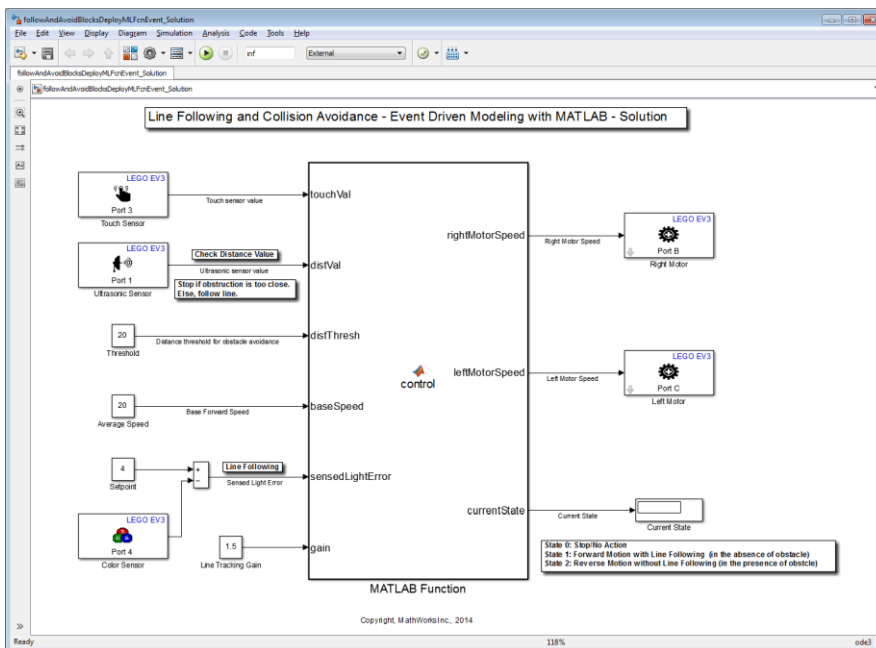

Figure 29: MATLAB Function block in Simulink model
6. After saving the model and making appropriate connections, the final model should look like the one in Figure 29.